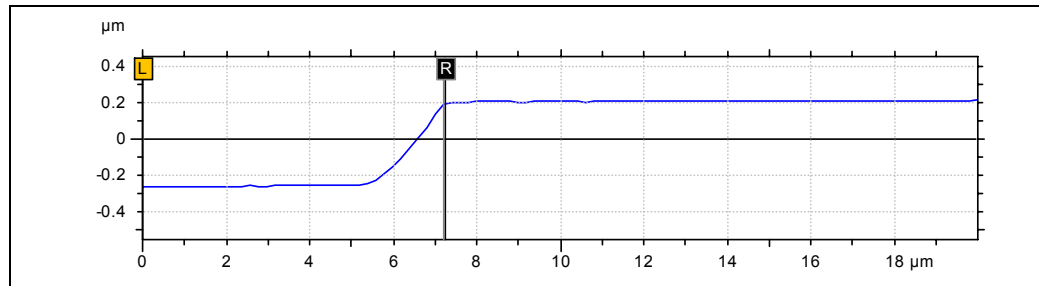

Figure 6.6: Evaluating the semi-width of the trench measured in the opposite direction
4. Without moving the sample, measure again the trench in the opposite direction by editing the recipe scan direction. Evaluate the second half of the trench (Figure 6.6). Note that the trace is displayed with the starting point on the left regardless of the scan direction.